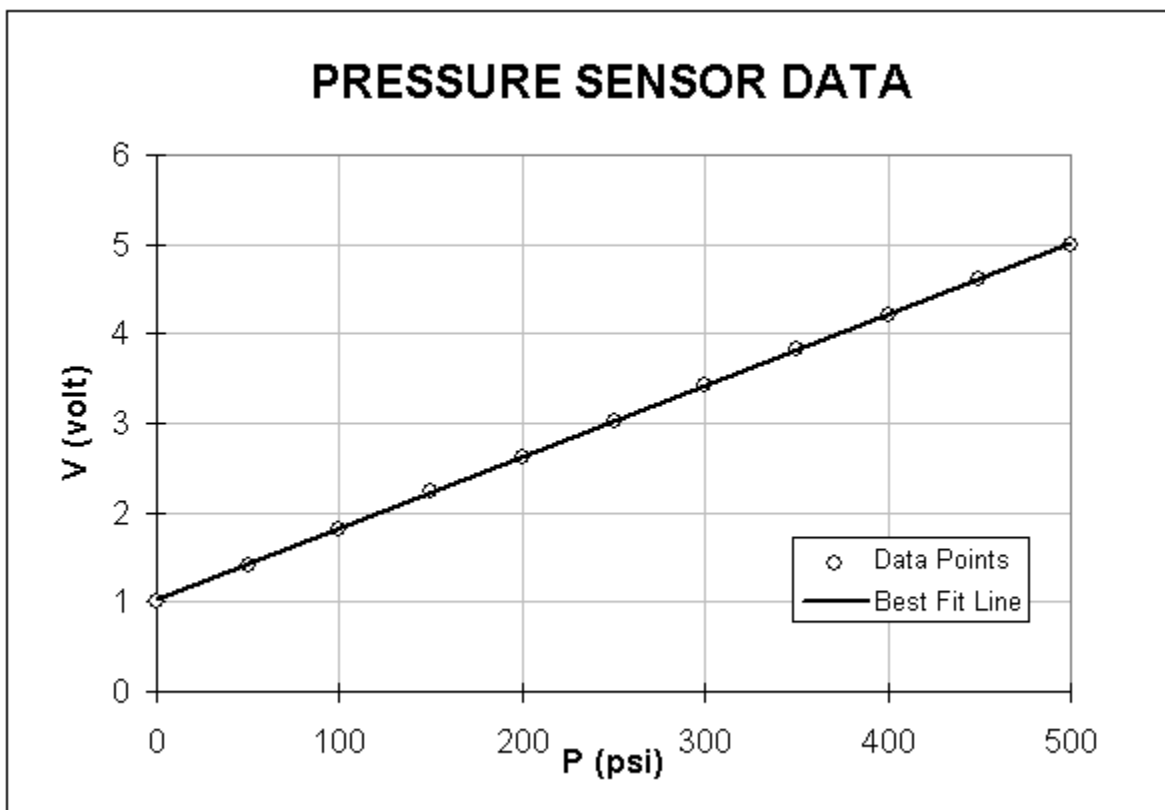

FIGURE 1
Figure 1 shows a graph generated in Microsoft Excel. It illustrates the type of computer generated graph we'll most likely use.
- Grid lines will be included on graphs. Since computer graphs are printed on plane paper rather than graph paper these grid lines are needed. They should be a lighter gray than other elements of the graph but easily visible. See Figure 1 above.
- As in Figure 1, the background should be clear (white). All information should be in black and white except for the grid lines which are gray.